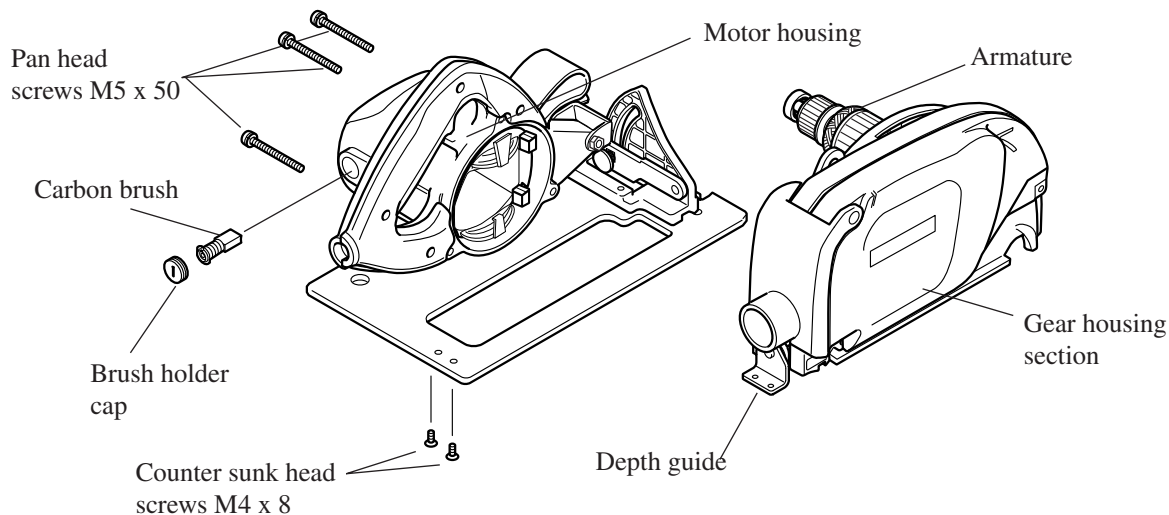

Fig. 3
1. Take off carbon brushes after unscrewing brush holder cap. See Fig. 3.
2. Unscrew 2 pcs. of counter sunk head screws M4 x 8 which fasten depth guide on base. See Fig. 3.
Then, gear housing section can be separated from motor housing together with armature. See Fig. 3.